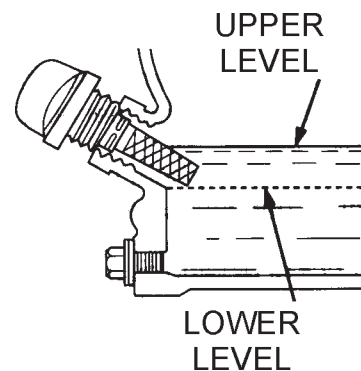

Figure 7. Engine Oil Level
4. If the oil level is low (Figure 7), fill to the edge of the oil filler hole with the recommended oil type (Table 4). Maximum oil capacity is 1.16 quarts (1.10 liters).